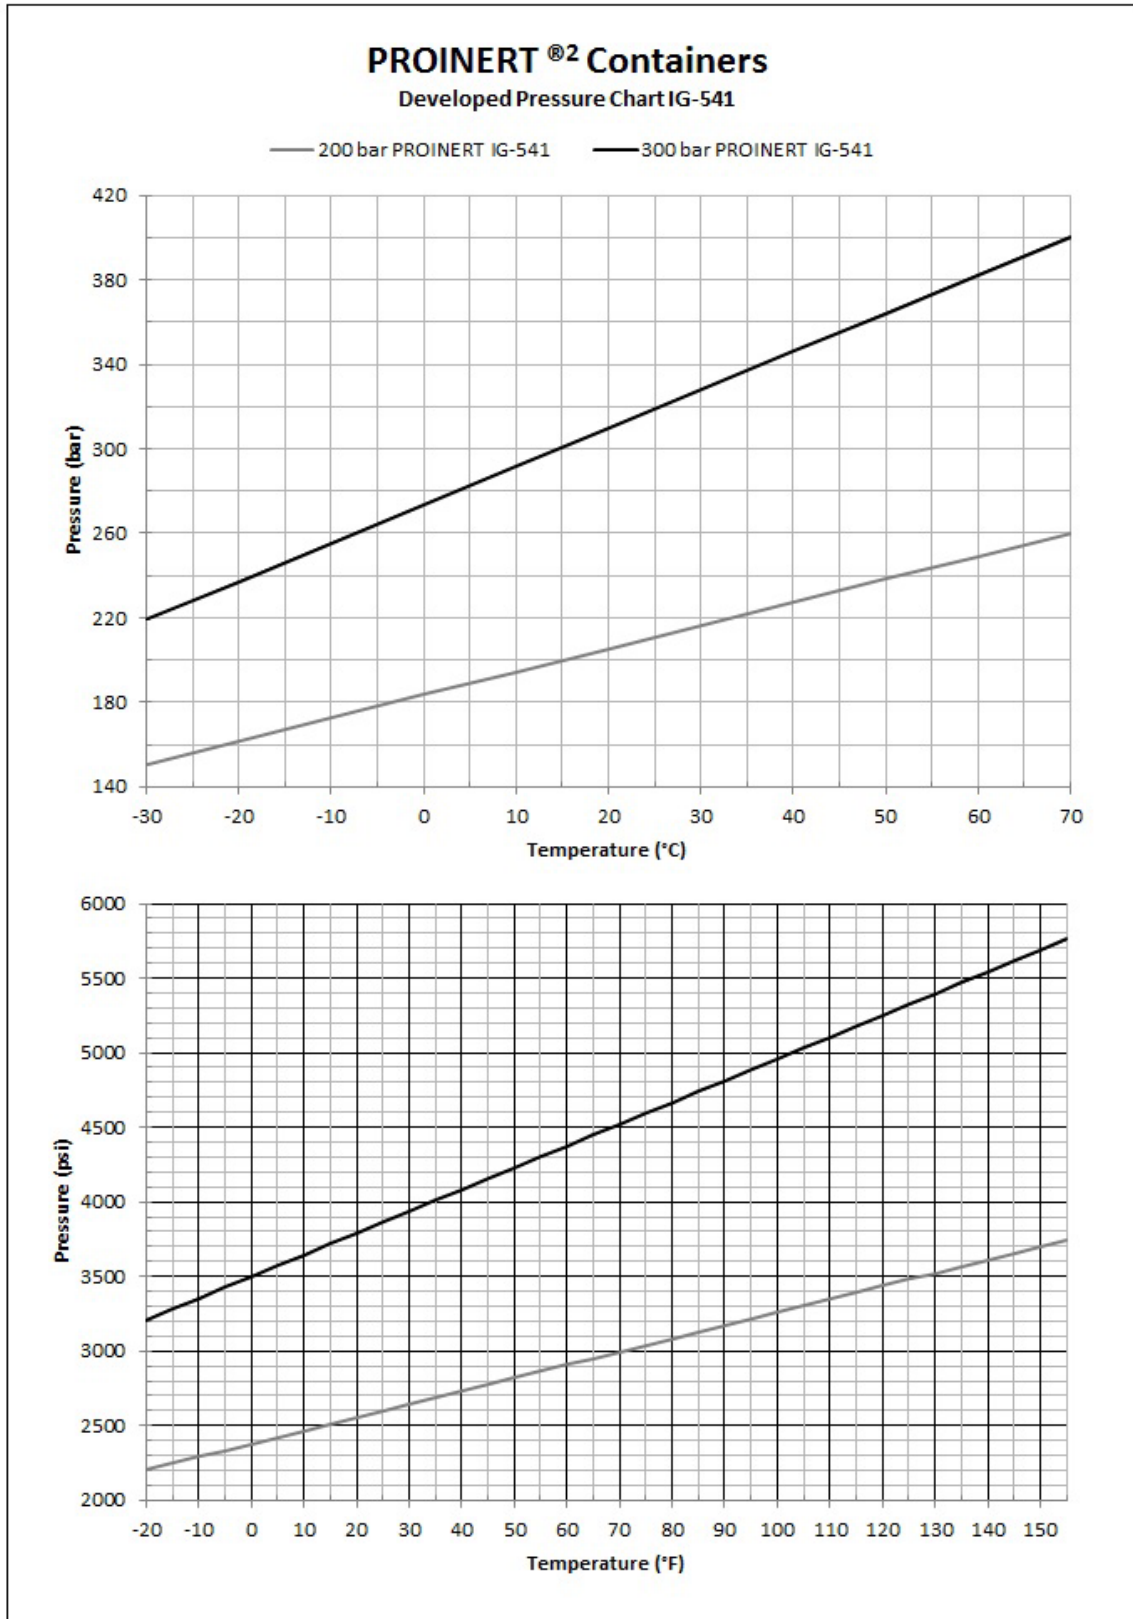

FIGURE 2
Step 3: Screw in the Pressure Gauge Assembly (Hand Tight) until resistance is felt. Use locking pliers or wrench to screw in the Pressure Gauge Assembly until it bottoms out. This will open an internal check valve (Schrader core) and pressurize the gauge (Refer to Figure 2).